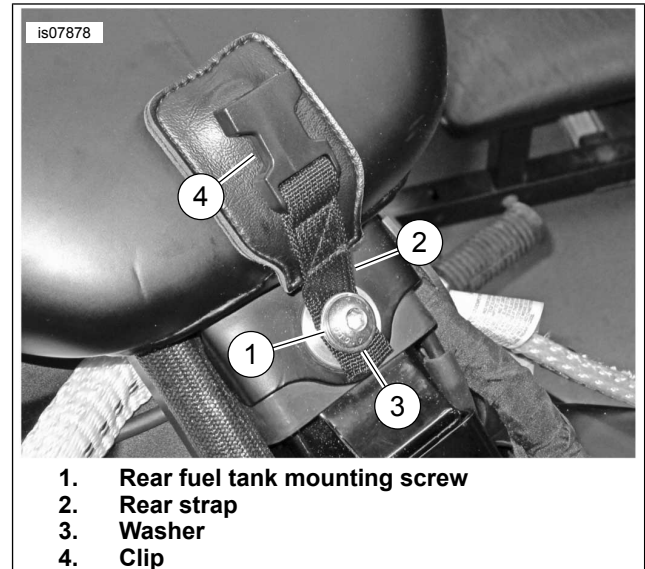

Figure 1. Rear Strap Installation
2. See Figure 1. Remove the rear fuel tank mounting screw (1). Save screw.